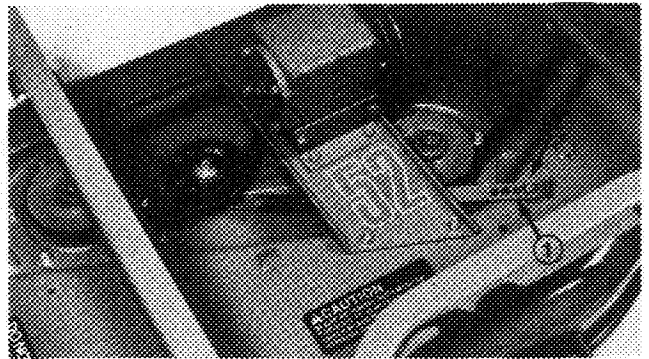

Figure 22
3. Remove nut securing spring anchor to bolt in housing (Fig. 22).
4. Remove spring anchor to relieve tension on deck belt (Fig. 22) and remove worn belt from pulleys.
6. Install new belt around spindle, gear box and idler pulleys. Tighten gear box mounting bolts. Hook spring to idler arm (Fig. 22).
7. Pull on spring anchor to apply tension to belt and place over bolt (Fig. 22). Correct belt tension is 30–40 lb (133–177 N) of force applied to spring.
8. Place spring anchor in appropriate hole and install nut (Fig. 22).